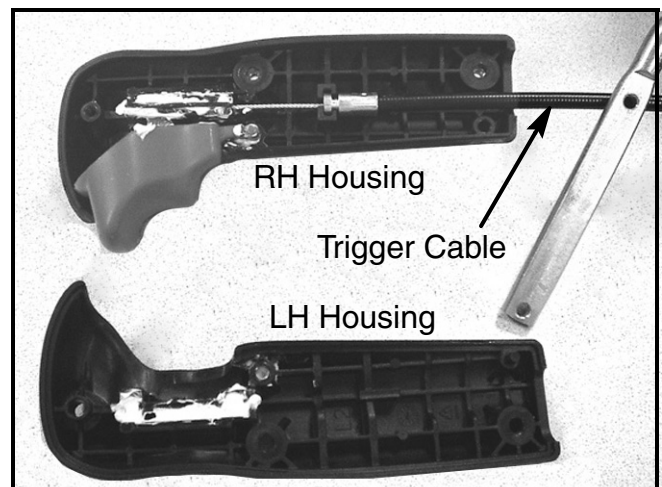

FIGURE 2
- Using a No. 2 Phillips screw driver, remove the Plastite screw securing the two housing halves together. Separate the two housing halves. See Figure 2.
10. Apply a liberal amount of White Lithium Grease, Item 7, to the plunger, the plunger's trigger tab slot, the plunger channels in new RH Housing, Item 1, and new LH Housing, Item 5, the trigger pivot sockets in both housing halves and the new Trigger's, Item 6, tab. See Figures 2 and 4.